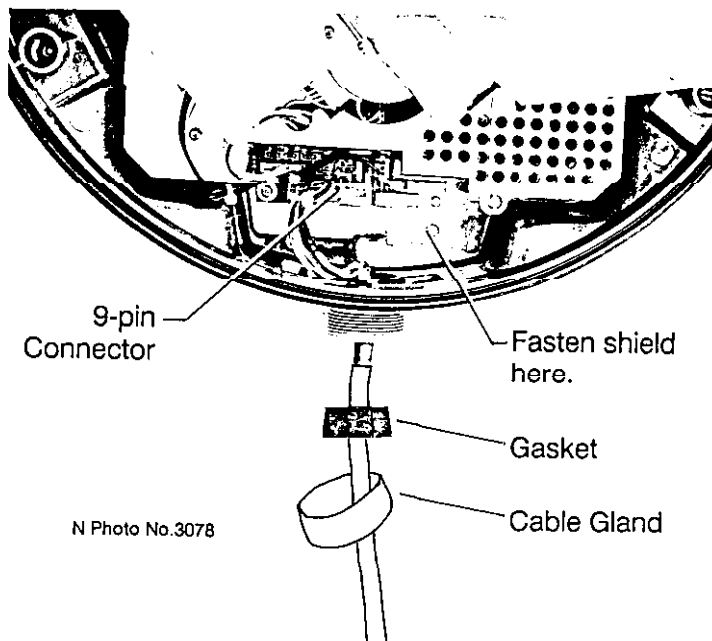

Figure 6-5 How to connect the signal cable to the scanner unit
Referring to Figure 6-5, pass the cable through the hole at the rear of the radome. Pass cable through gasket and cable gland. Pass cable through gasket and cable gland, and then hand tighten cable gland. Fasten the shield to screw on the chassis to ground the unit.
- 5) Referring to Figure 6-5, connect the 9-pin connector.